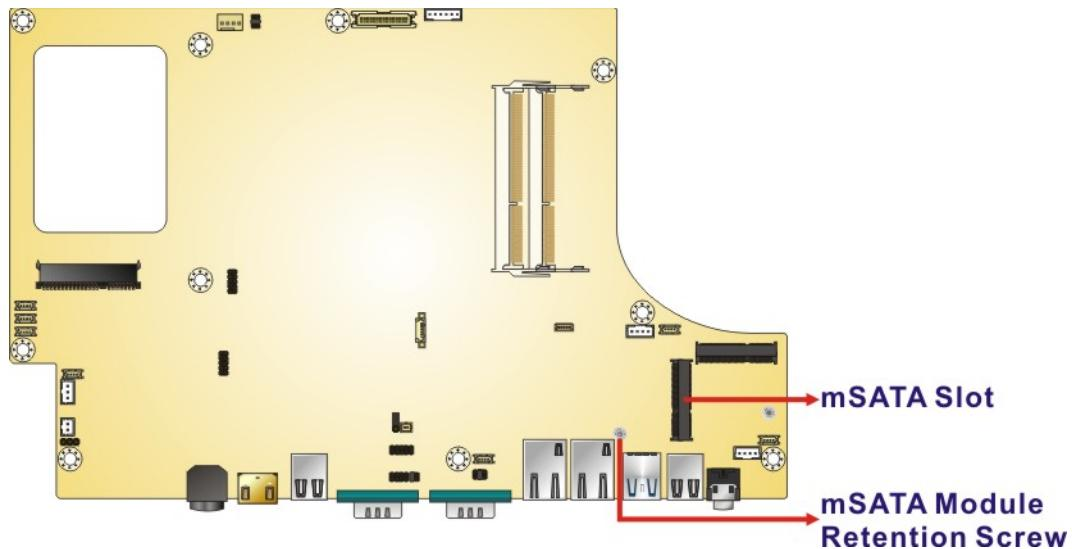

Figure 3-6: mSATA Slot Location
Step 2: Locate the mSATA slot (**M_PCIE1**) on the motherboard. Remove the preinstalled retention screw on the screw pillar of the PCIe Mini slot as shown in (Figure 3-6).